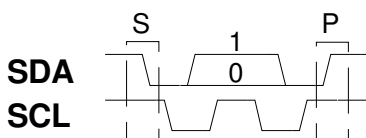

Figure 3. I²C® bus protocol definitions
Figure 3 shows the start (S) and stop (P) bits and a
Each serial bus operation, like write, starts with the start (S) bit (see figure 3). After start (S) the MAS6502 device address with write bit (AW, see table 7) is sent followed by an Acknowledge (A). After this the ADC control register address (see
table 1) is sent and followed by an Acknowledge (A). Next the ADC control register data (DC, see table 2) is written and followed by an Acknowledge (A). Finally the serial bus operation is ended with a stop (P) command (see figure 3).